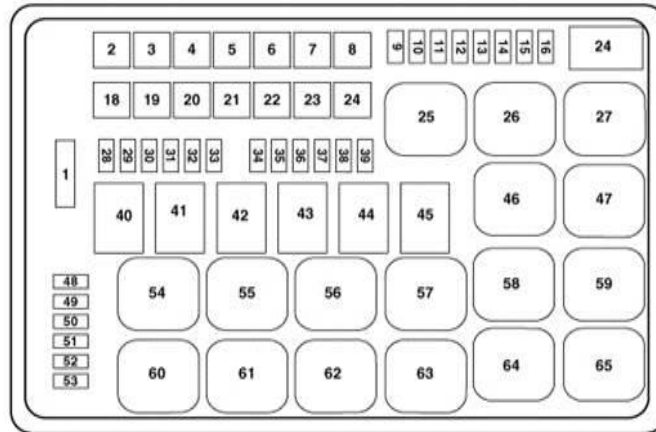

Fig. 1 Fuse Locations
1. Refer to fuse location diagram for fuse cavity locations (Fig. 1).
24. Install the new 10 amp fuse provided in the repair kit into cavity number 53 of the PDC, for location see (Fig. 1).